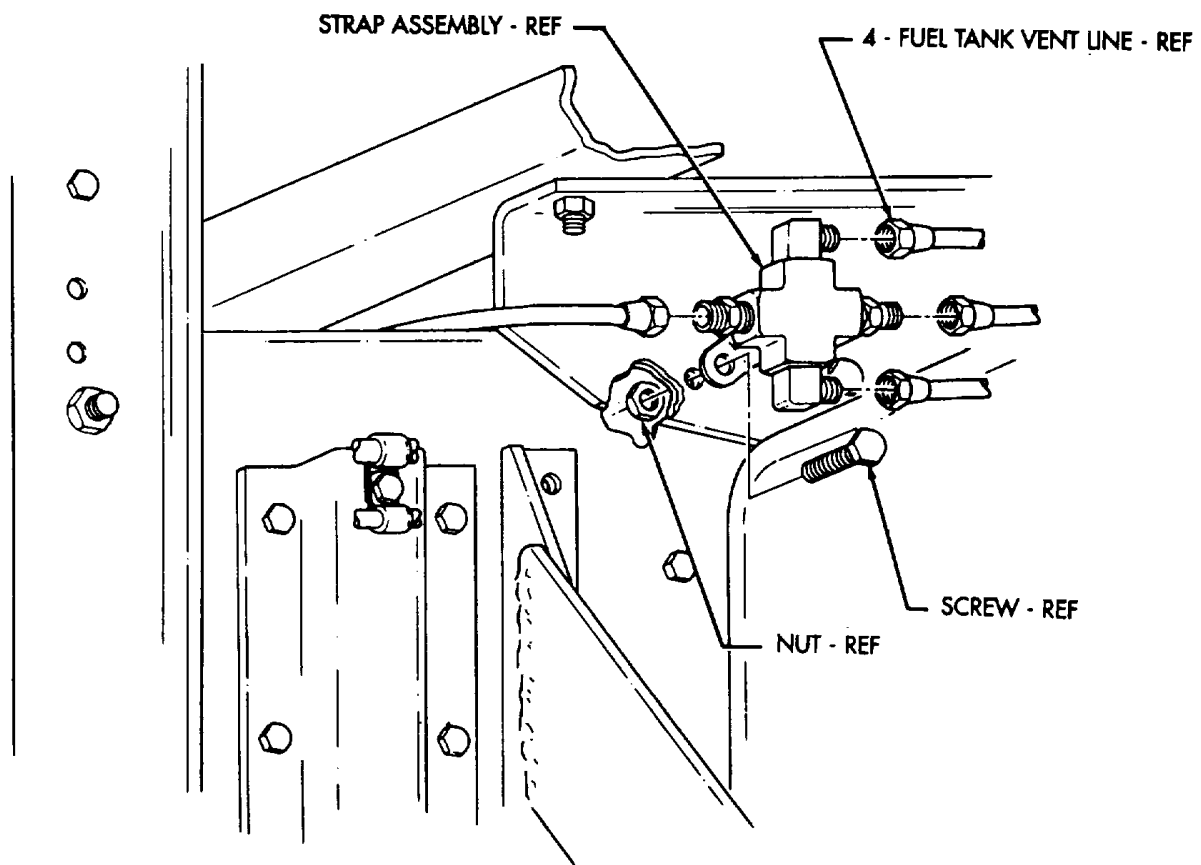

FIGURE 2
- (4) Disconnect four vent lines from strap assembly as shown in figure 2.
- (5) Remove nut, screw, and strap assembly from frame rail as shown in figure 2. Set nut, screw, and strap assembly aside for disposition per para. 8.